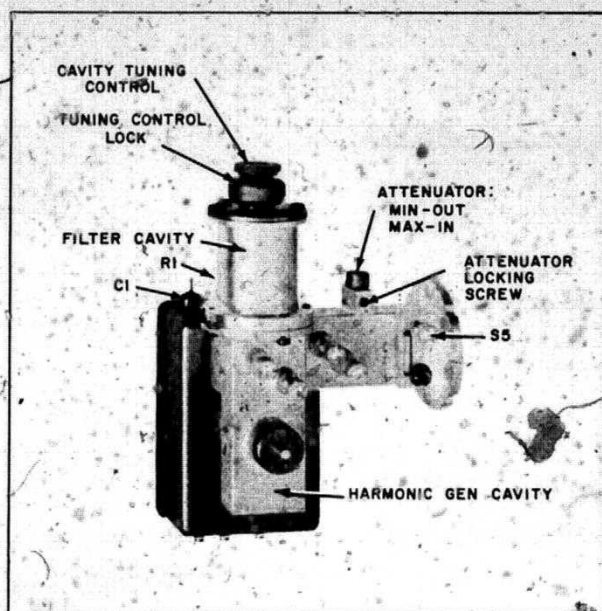

Figure 1. Harmonic Generator Assembly
- 2) Loosen microwave attenuator locking screw (Figure 1) on Harmonic Generator (near beam tube flange) and slide attenuator all the way out. This is minimum attenuation position.
- 4) Locate A20R27 on cesium oven controller A20 and adjust for maximum beam current. Tuning screw A4S5 (Figure 1) may require a slight adjustment at this time before a significant beam current can be measured while adjusting R27. CAUTION -- Less than 1/2 turn of A4S5 should be necessary.
- 5) Locate A4R1 on the harmonic generator assembly (see Figure 1).
- 8) Loosen attenuator locking screw (Figure 1), and slide attenuator in until the beam current is half way between the maximum and background levels.